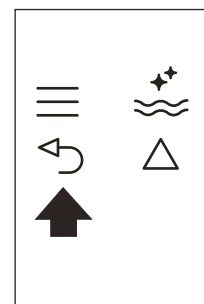

Fig. 25
- ▶ Press the ↶ icon (B6) (Fig. 25) twice to exit the menu.
- ▶ Press the ↵ icon (B6) (Fig. 25) twice to exit the menu.